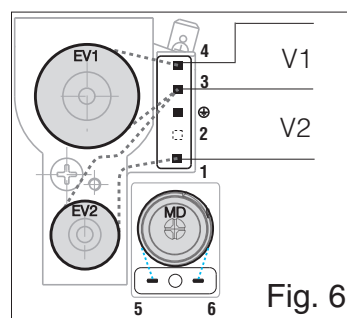

Fig. 6
- the connection diagram is given in Fig.6. The automatic shut-off valve EV1 shall be supplied connecting pins 3 and 4. The automatic shut-off valve EV2 shall be supplied connecting pins 1 and 3.